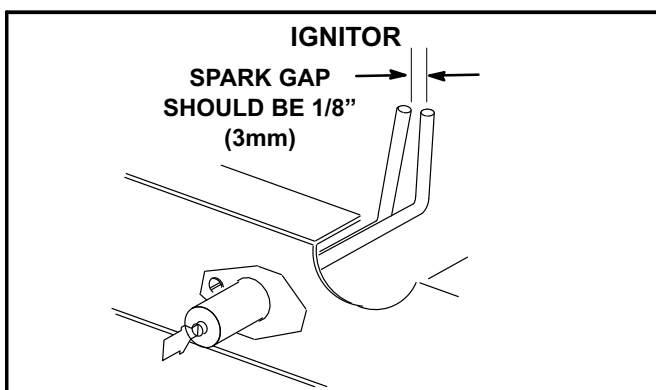

FIGURE 35
- 4- Locate the ignitor under the left burners. Check ignitor spark gap with appropriately sized twist drills or feeler gauges. See figure 35.